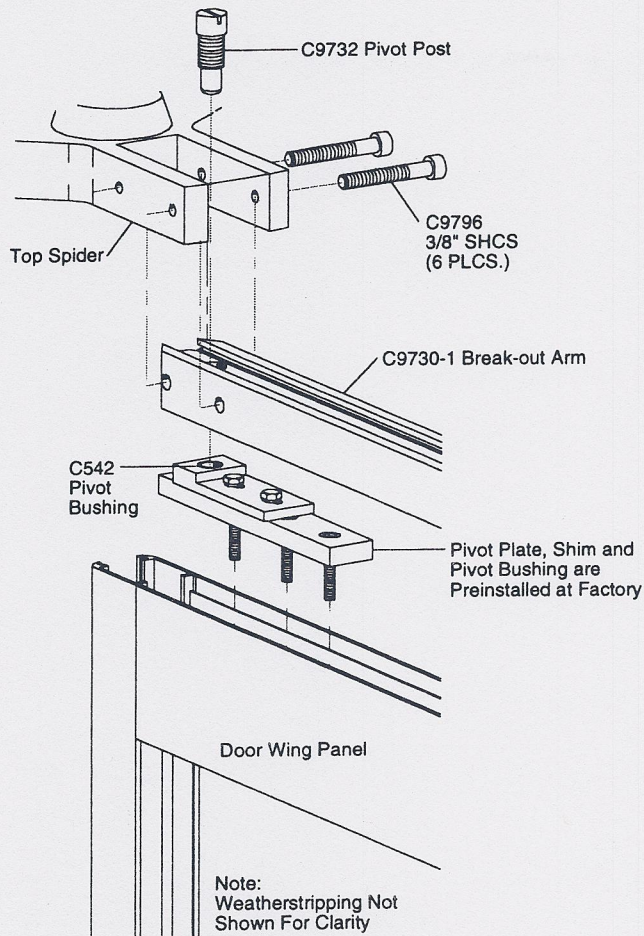

Figure 17 - Installing 3-Wing Standard Breakout Door Panel
1. Attach C9730-1 Break-out Arm to Top Spider using (2 ea.) C9796 3/8" SHCS provided (Figure 17 on G917.14).
2. Place C5547-1 Bearing (located on underside of door panel) on C9733 Bottom Pivot Post which has been preinstalled at the factory (Figure 17). Grease Bottom Pivot before panel installation.
3. Install C9732 Pivot Post through Breakout Arm and into C542 Pivot Bushing (Located on top side of door panel). This should hold door panel in position and also allow door panel to swing on pivots (Figure 17).